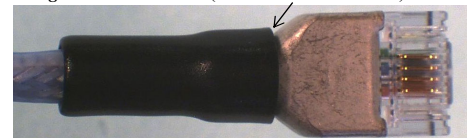

Figure 10
- 5) Form wires into the desired configuration (ex. Fig. 5), per assembly dwg, in preparation for insertion into the connector (reference Fig. 10 for typical wiring configuration). Trim off the ends of the wires square and even using sharp wire cutters (to avoid flattening foam FEP insulation). Trim off .050" Max (Fig. 5).